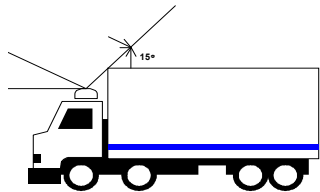

Figure 1: Look angle
2. A minimum "look angle" of 15° should be maintained from any obstruction. (see figure 1 below)